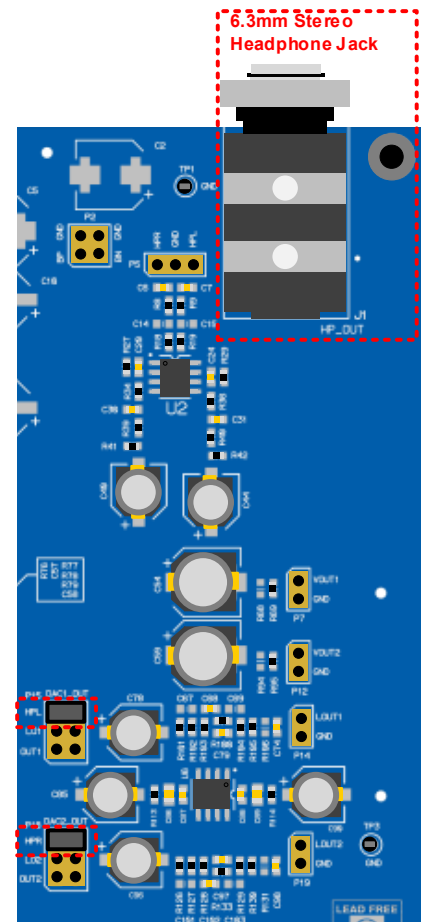

Figure 15: DAC Output to Headphone Output
- HPL/HPR – 2.1 V_{RMS} single-ended headphone output circuit, shown in Figure 15.